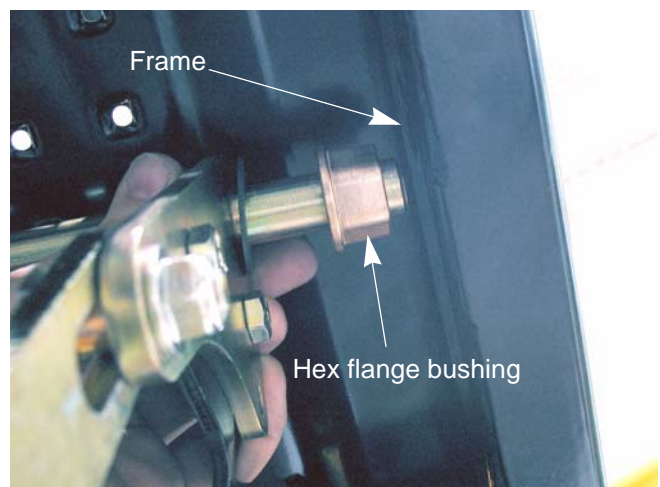

Figure 8.33
8. Slide the lift shaft to one side far enough for the lift shaft and hex bushing to clear the frame. See Figure 8.33.